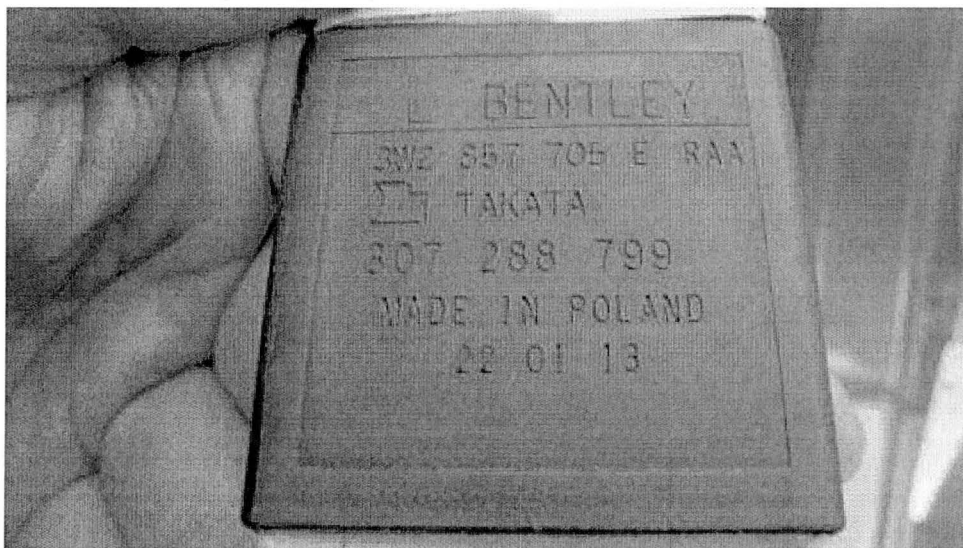

Figure 5
5. On completion the surface of the sleeve adjacent to the seat valance trimmed surface should be as figure 5